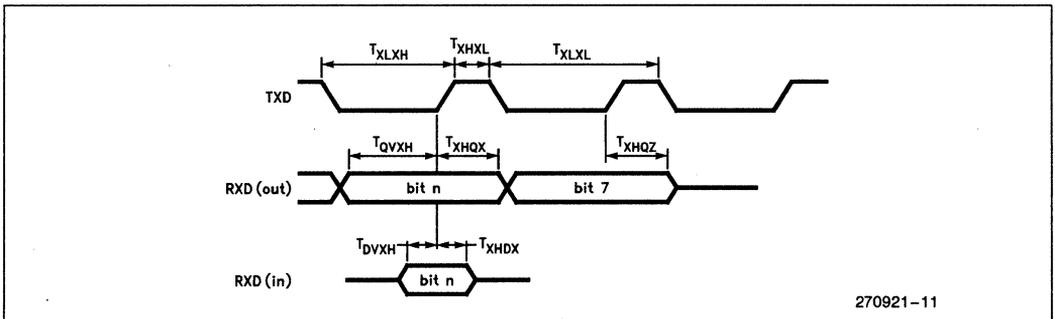

Figure 9. Serial Port Mode 0 Waveform
1. See Figure 9 for waveforms.